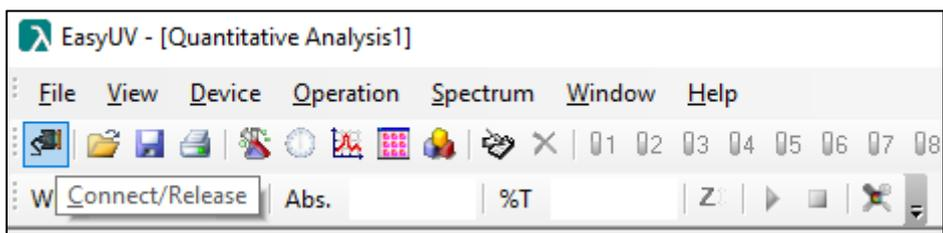

Figure 2.6-6 Toolbar Connect/Release
- On the Toolbar click on the icon  (Fig.2.6-6)